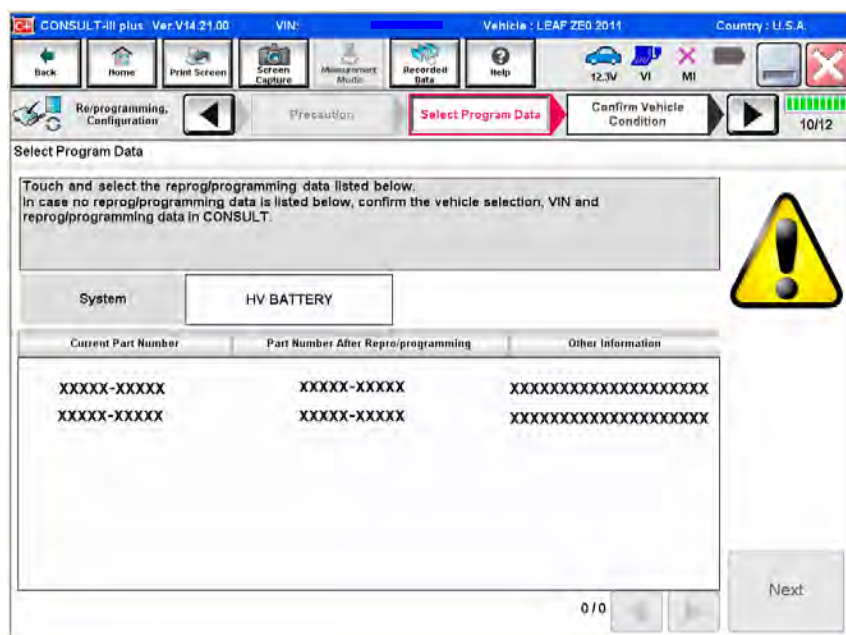

Figure 44
- In this case, the screen in Figure 44 will display.